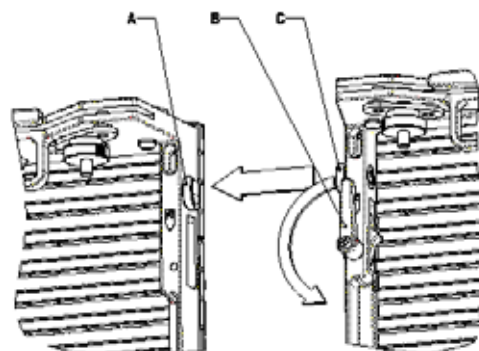

Figure 13: Horizontal locking in a flat-screen array
- See Figure 13. When two panels are alongside each other, rotate both the two side-to-side locking handles **B** on one panel fully so that the two side-to-side locking hooks **C** engage in their posts in the other panel and lock the panels together.
8. Reinstall the alignment cones (see Figure 13) on the sides of panels and Headers before installing panels in a flat wall.